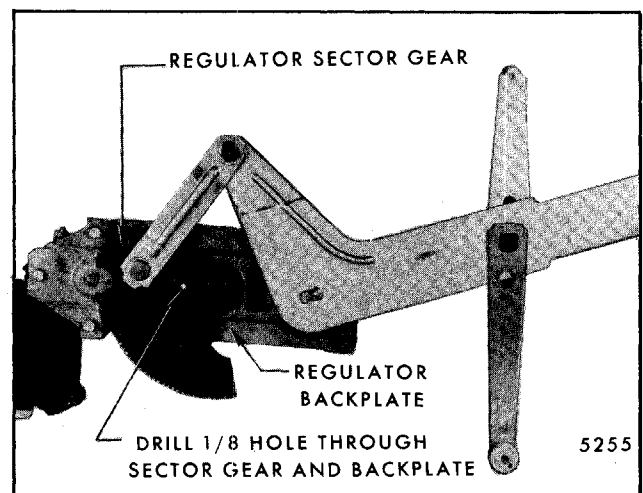

Fig. 7-128 - Tailgate Window Regulator Motor Removal
2. Drill a 1/8" hole through the regulator sector gear and back plate (Fig. 7-128). DO NOT drill hole closer than 1/2" to edge of sector gear or back plate. Install a pan head sheet metal tapping screw (no. 10-12 x 3/4") in drilled hole to lock sector gear in position.